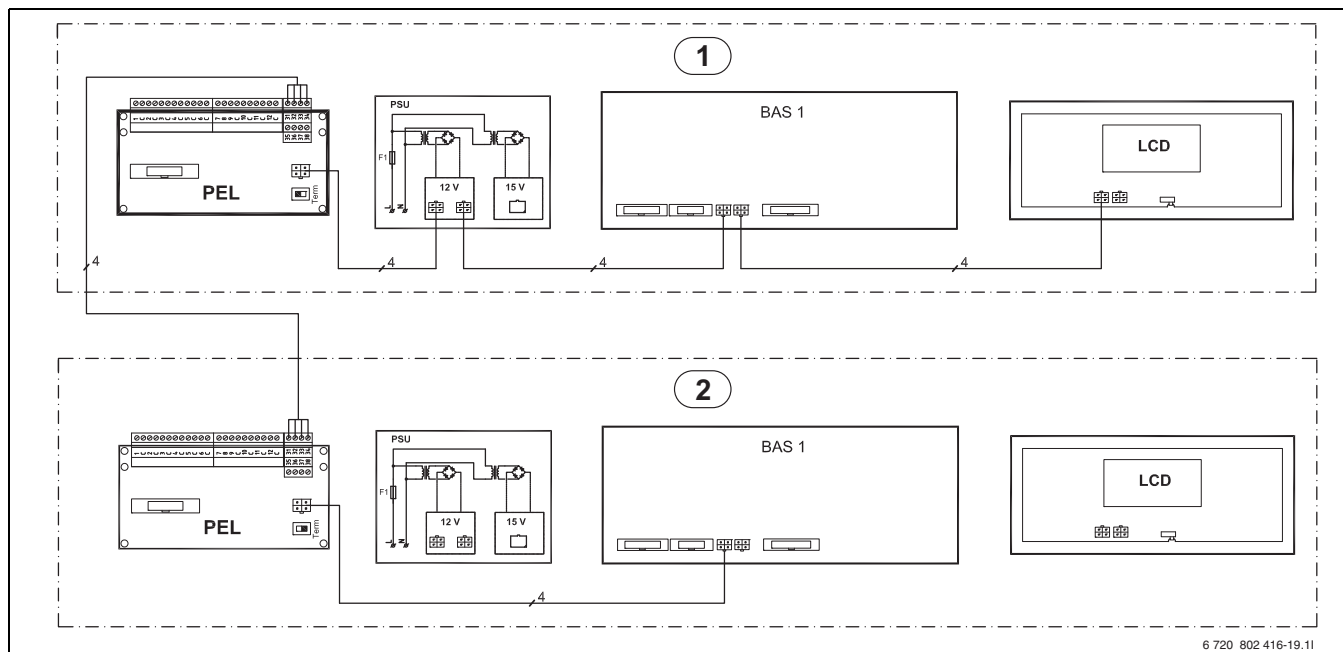

Fig. 40 CAN-BUS overview with two heat pumps
NOTICE: PSU and LCD (→Figure 40) in heat pump 2 are factory connected, these must be disconnected and are not used in cascade connection
4. Re-connect CAN-BUS with existing CAN-BUS cabling in heat pump 2 (→Figure 40).